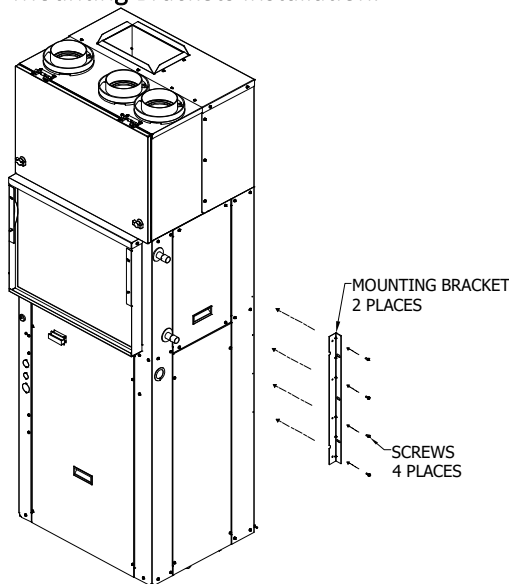

FIGURE 12 - Mounting Brackets Installation
7. Attach unit mounting brackets (2) as shown in **FIGURE 12 - Mounting Brackets Installation**.